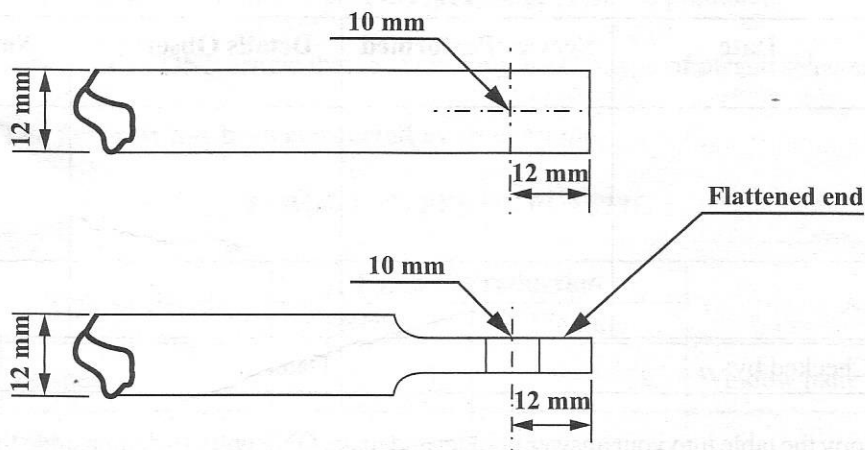

Figure 8. Bicycle carrier support
8. Figure 8 shows a bicycle carrier support. A length of 12 mm diameter mild steel bar is to be flattened and drilled at one end, in order to attach it to a 10 mm diameter bolt at one end.